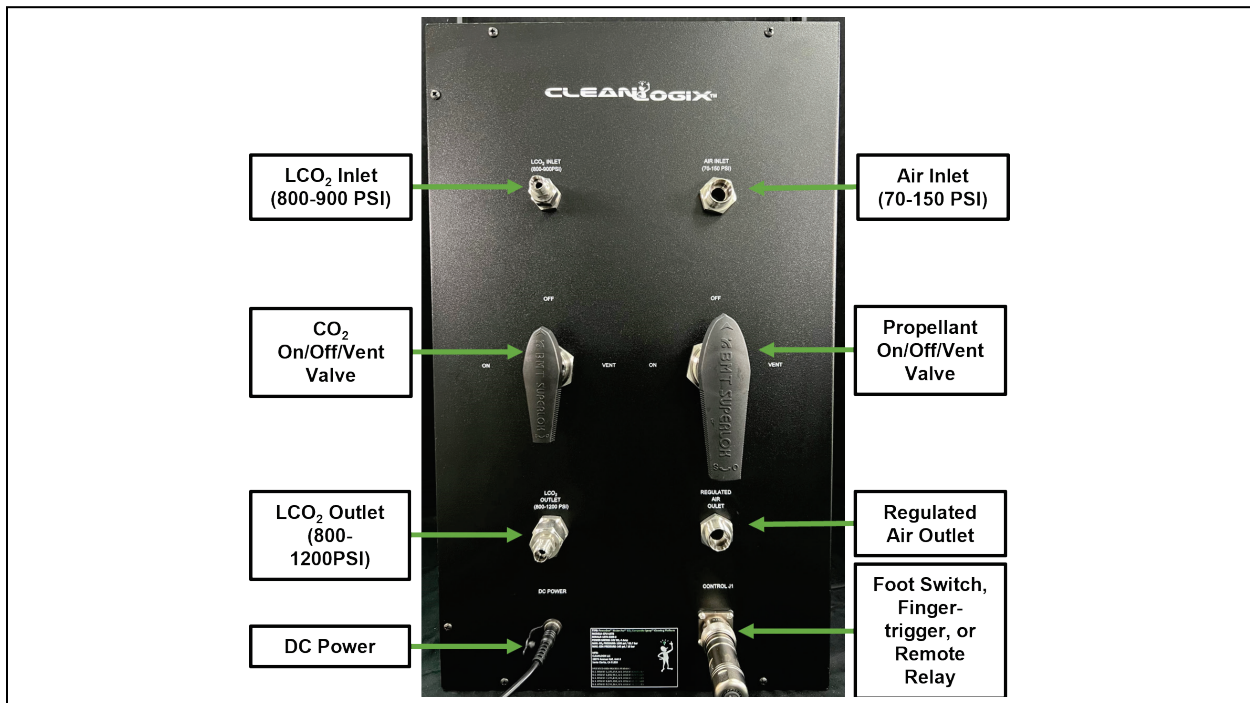

Figure 2 – PowerSno Vector Pro Universal Spray Treatment System™ Back Panel
8. Plug in the 110V AC/ 24V DC Adapter along with the footswitch or trigger-finger (Triad & Deca Applicators) Push-In Signal/Power Connector shown in Figure 2.
9. If using a Triad or Deca Spray Applicator, attach the applicator's 1/4" OD LCO₂ hose to the LCO₂ outlet port of the PSVP-USTS™ located on the back panel shown above in Figure 2. You must also attach the applicator's 1/2" OD polyurethane propellant tube to the air outlet port while adequately tightening both nuts onto the bulkheads.